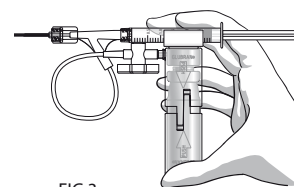

FIG.3
**Take the canister in your hand (fig.3) and press the syringe and the distal extremity of the lower half-shell at the same time, bringing the two halves of the shell together to hook in place.**